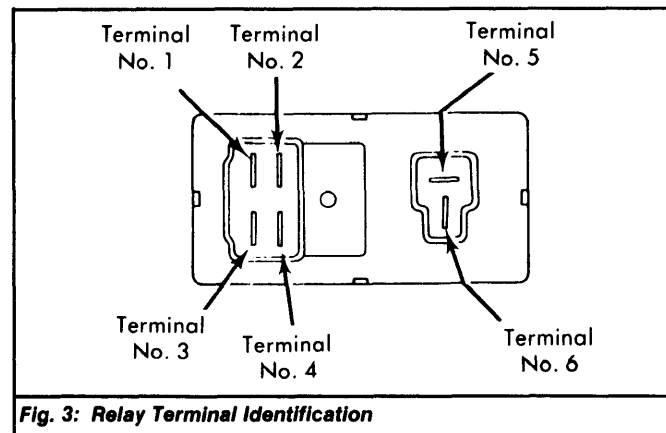

Fig. 3: Relay Terminal Identification
1) Disconnect wiring from relay. Connect battery positive lead to terminal No. 2 and negative lead to terminal No. 6. See Fig. 3. Continuity should exist between terminals No. 1 and 4. No continuity should exist between terminals No. 3 and 4.